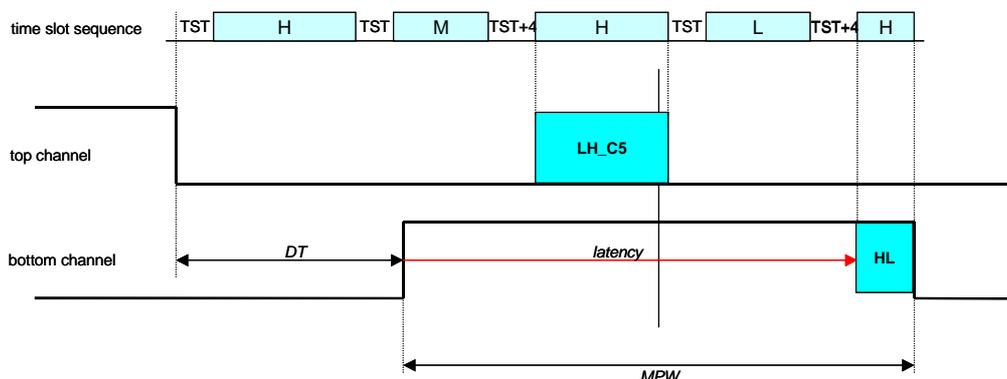
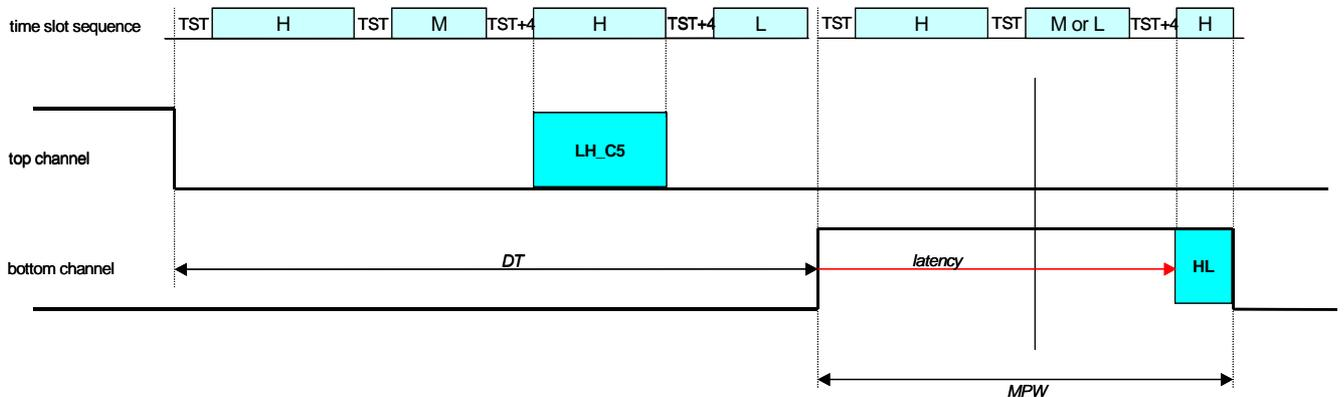

Figure 7. Worst case timing – case one
Figure 8. Worst case timing – case two
In this instance, one of the two worst case timing cases can happen. These are illustrated in Figure 7 and Figure 8. Which case occurs depends on the  $DT$ .
- The first case can occur when the *DT* (in IMB clock cycles) is less than  $TST + H + TST + M + TST+4 + LH\_C5 + TST+4 + L$  (see Figure 8) that is  $4 * TST + 8 + H + M + L + LH\_C5$  that is  $76 + H + M + L$  IMB clock cycles.
- In **case one** the *MPW* is (according to Figure 7)
- In **case two** the MPW is (according to **Figure 8**)